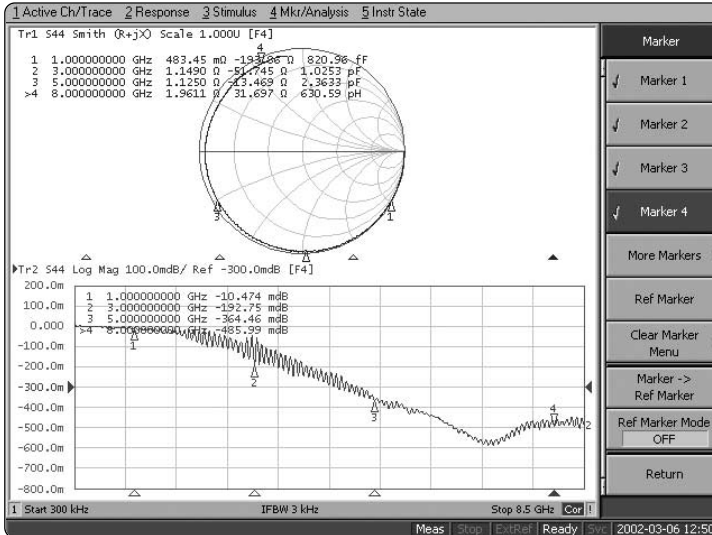

Figure 17. Verify the calibration of each test port
2. An alternative is to verify whether the trace of  $S_{11}$  in the log magnitude screen decreases with increasing frequency. Figure 17 shows the verification results of full 4-port error correction.